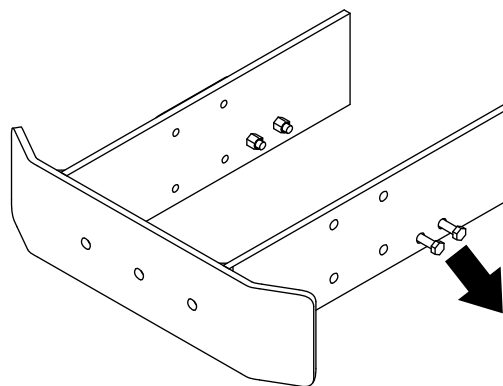

Figure 1
2. On one side of the frame, remove 2 bolts and nuts where the side plates will be installed (Figure 1).